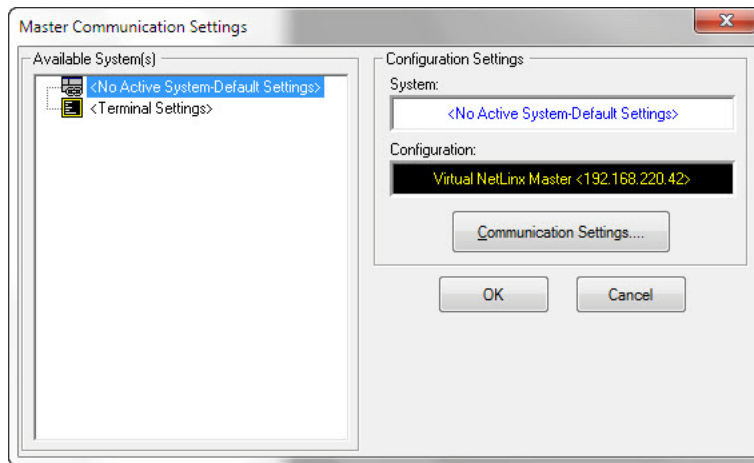

FIG. 25 Master Communications Settings dialog box
1. Launch NetLinx Studio and select **Settings > Master Communication Settings** from the Main menu to open the *Master Communication Settings* dialog (FIG. 25)